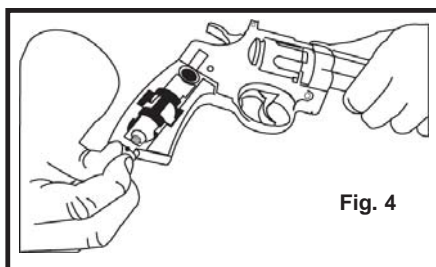

Fig. 4
- With the right side of the frame on top hold the airgun by the barrel with one hand as in Figure 4.